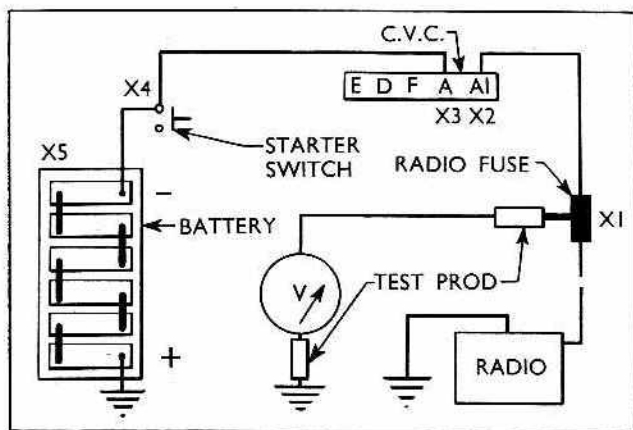

Fig. 606
- 1 Connect a suitable voltmeter in series with two test prods as shown in Fig. 606.
- 5 Compare the reading obtained with the battery voltage. No reading on the voltmeter indicates a break in the supply circuit, while a drop in voltage indicates a poor connection resulting in a high resistance. Check back stage by stage, at the points marked with an X in Fig. 606.